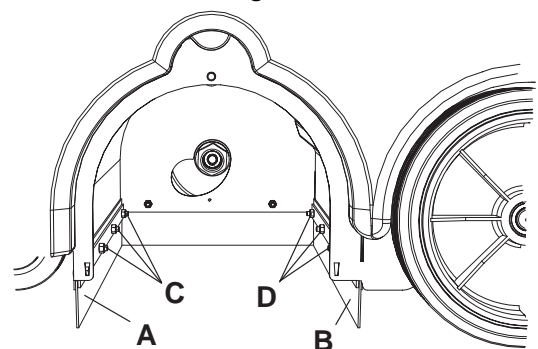

Figure 21
14. Check the front (A, Fig. 21) and rear skirts (B) for integrity.